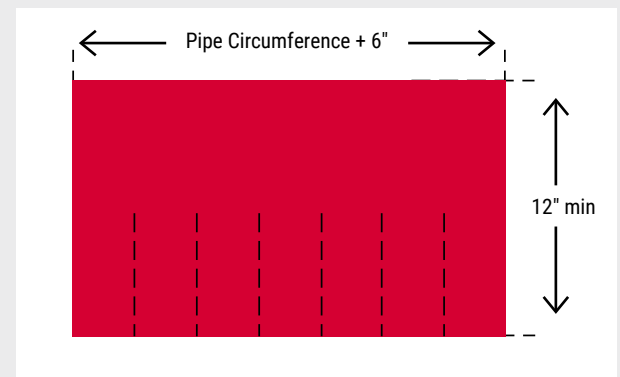

Figure 2:
2. Mark 6" high slit along the length of the above cut piece at regular intervals that could go along the periphery of the pipe penetration. *(Fig. 2)*
3. Use a knife or scissors to cut "fingers" half the way of the film, as shown in the diagram. *(Fig. 2)*